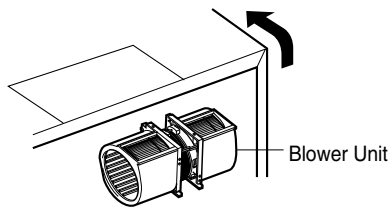

Figure 21
3. Rotate blower unit 90° so the exhaust ports face the front of the cabinet. See Figure 21.